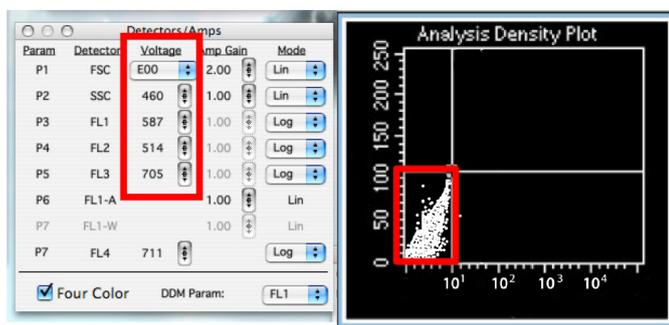

Figure 9. Adjust detectors voltage
16. Change the voltage of the detectors to have almost all the cells in the lower left quadrant. (Figure 9)